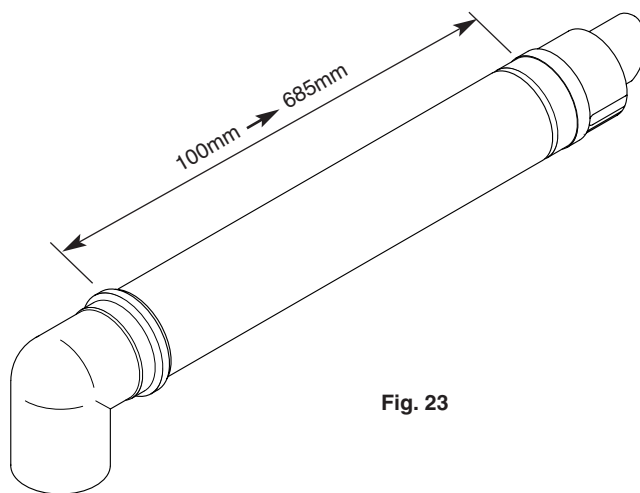

Fig. 23
1. The standard flue is suitable for lengths between 100mm minimum and 685mm maximum, as measured from the edge of the flue elbow outlet to the joint between the terminal and air duct (Fig. 23).